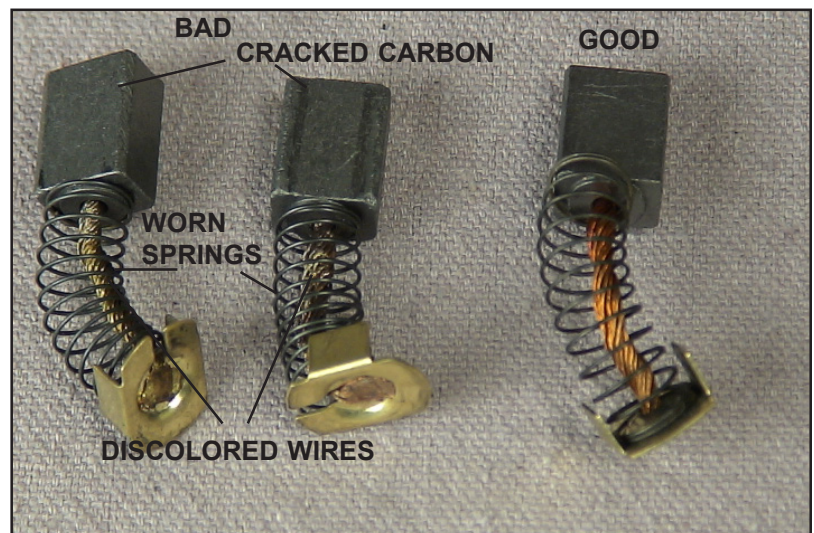

Figure 17. Motor Brush Conditions
- 19) Remove the brushes from the motor and inspect them. See figure 17. Indications of a bad brush include broken springs, cracked carbon, black or discolored wire, and black or discolored contacts.